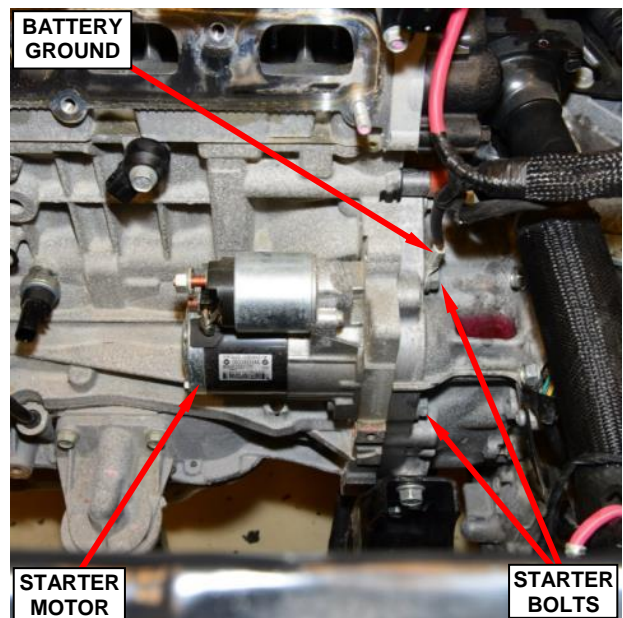

Figure 23 – Starter Motor
79. Remove and save the two bolts securing the starter motor (Figure 23).
80. Remove and save the starter motor (Figure 23).